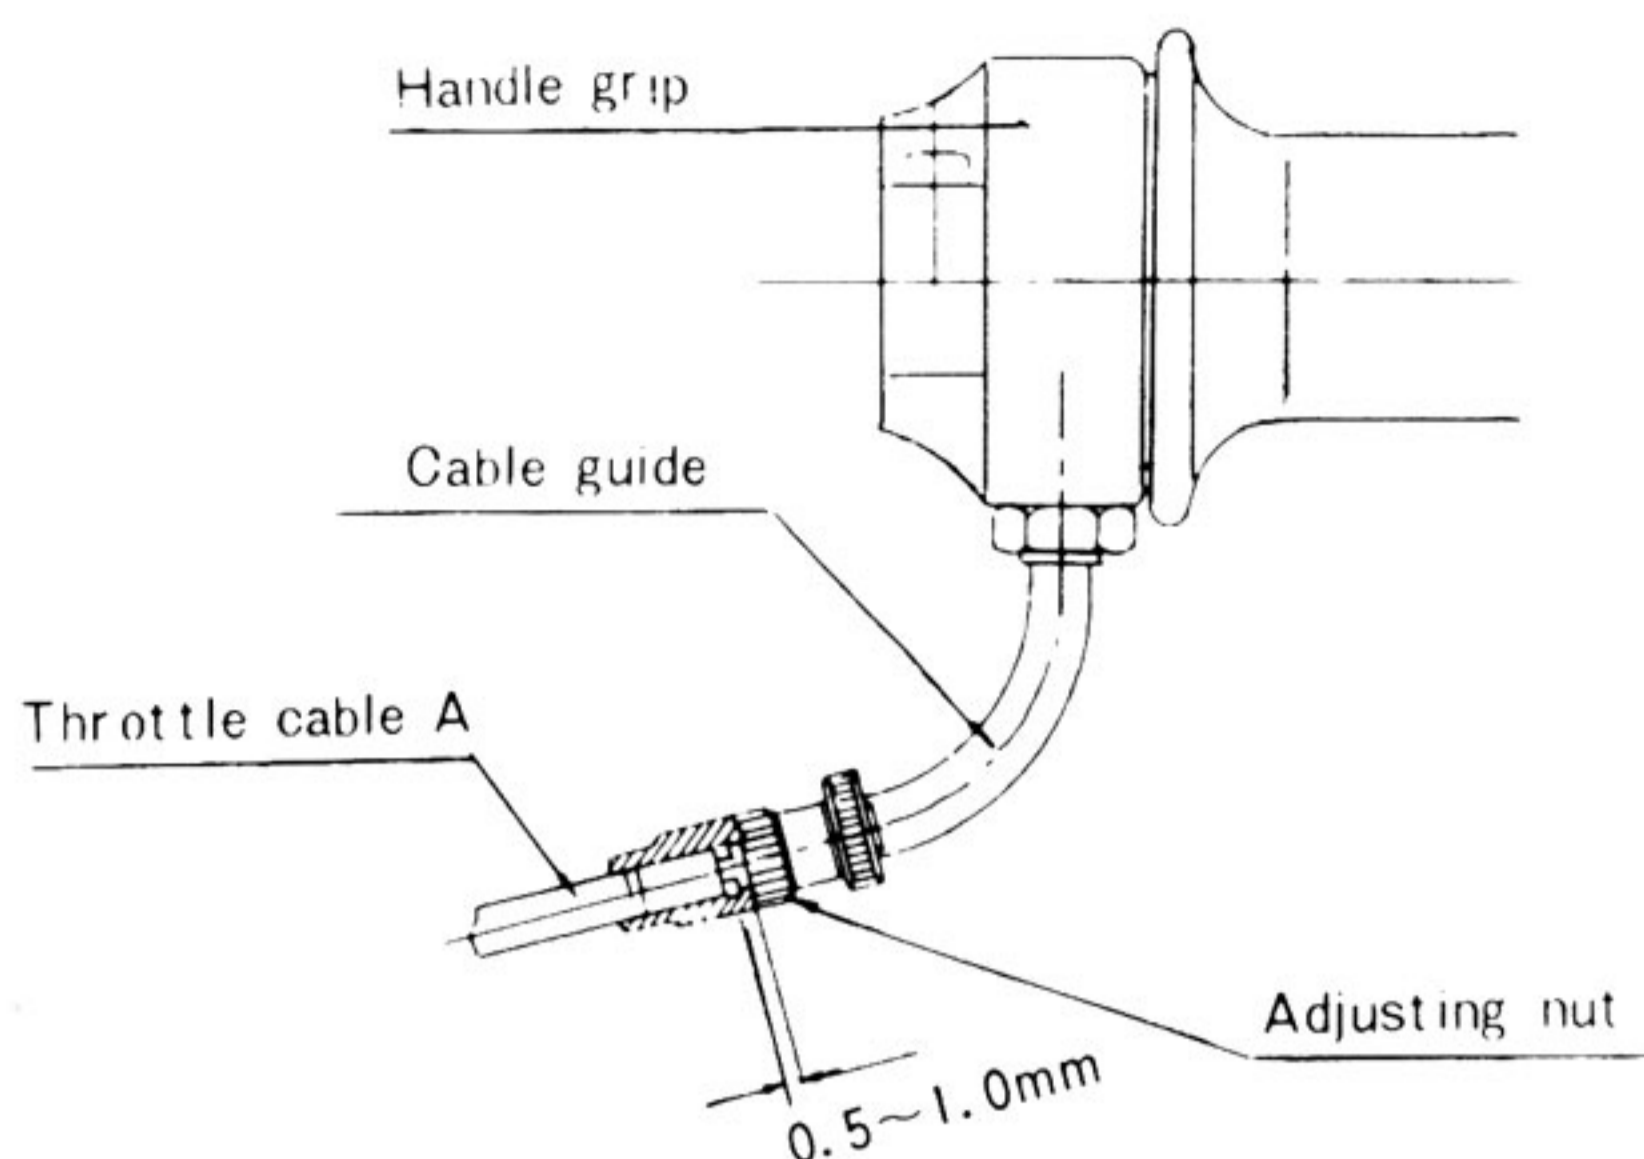
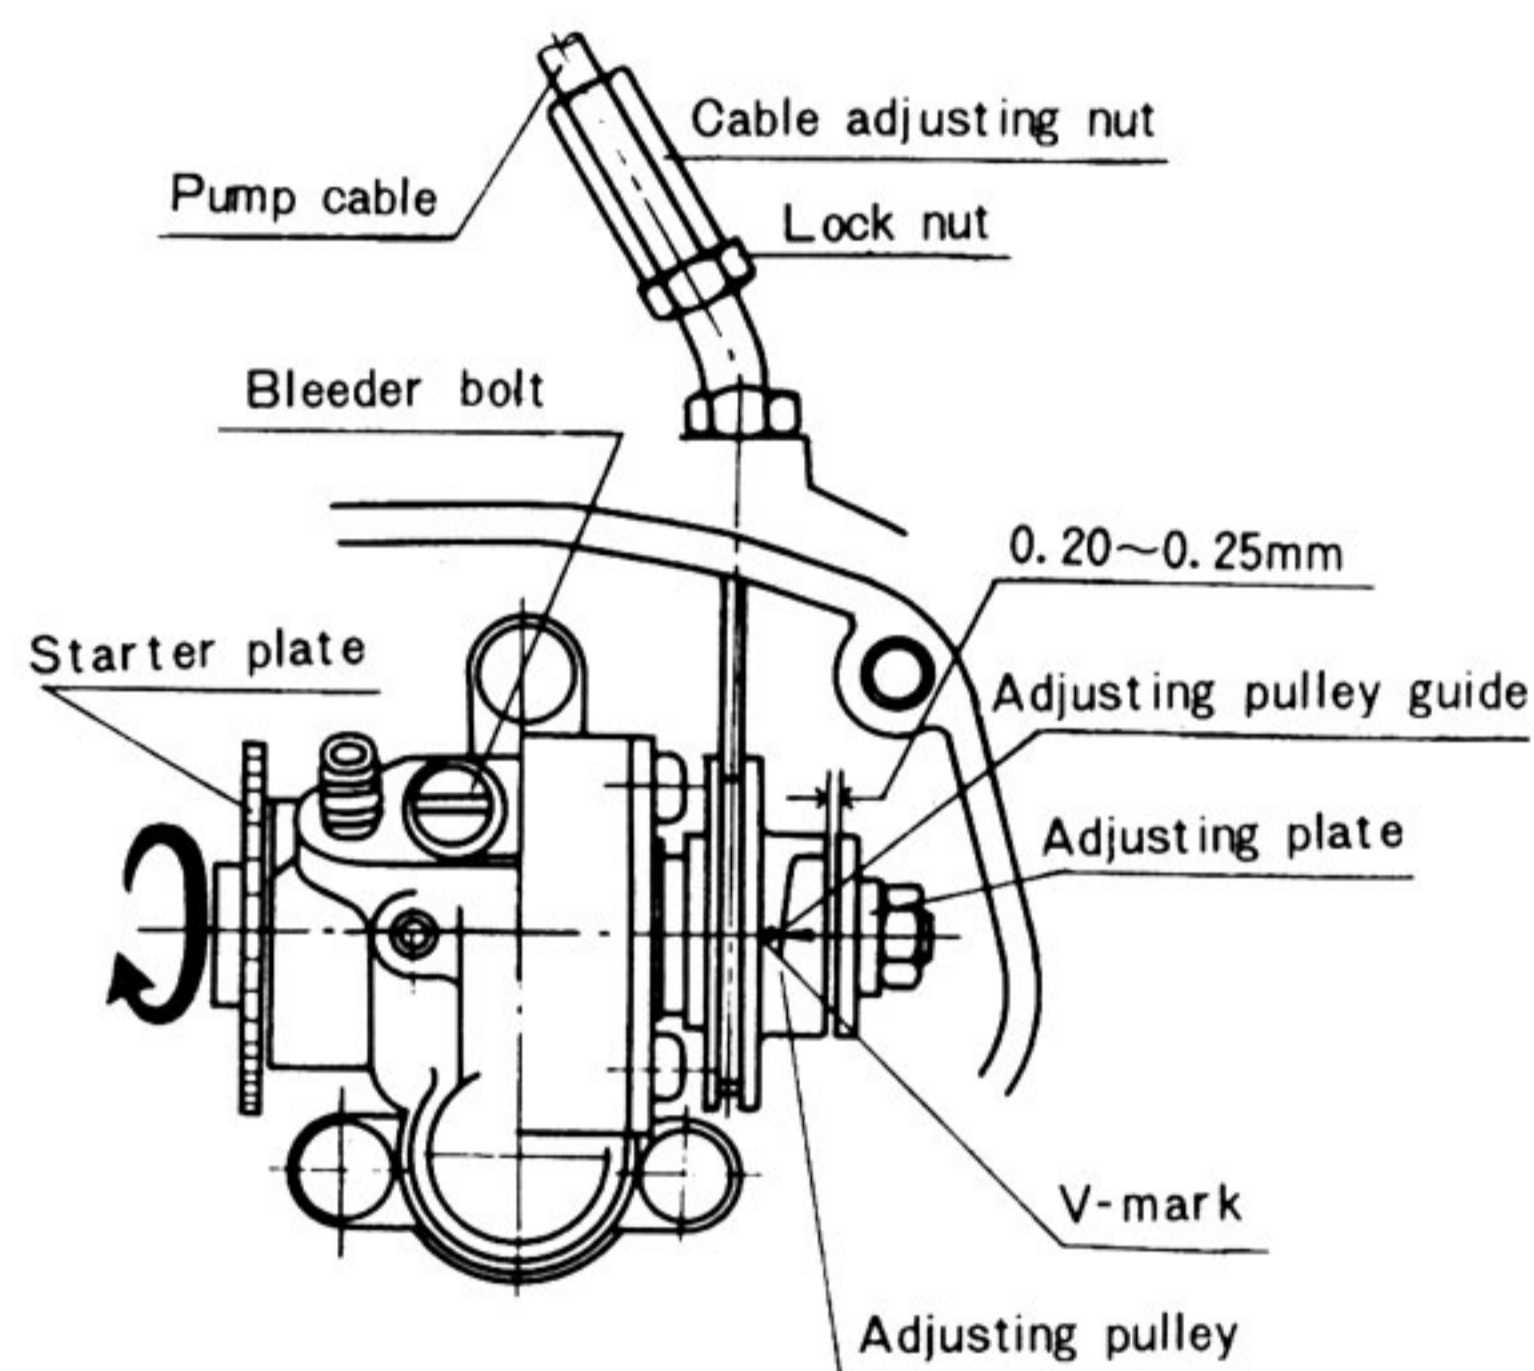

Fig. 2-3-3
Fig. 2-3-4
b. Adjust the play of the throttle cable connected to the handle grip to 0.5 ~ 0.1 mm. Do this by turning the adjusting nut to the cable guide. (Fig. 2-3-3)
(3) After adjusting the throttle cable, set the oil pump correctly.
a. Slowly open the handle grip until the play of the throttle cable is removed. (When the play is reduced to zero, the grip becomes somewhat tight). Adjust the pump cable so that the mark on the adjusting pulley is aligned with the guide pin. (Fig. 2-3-4)